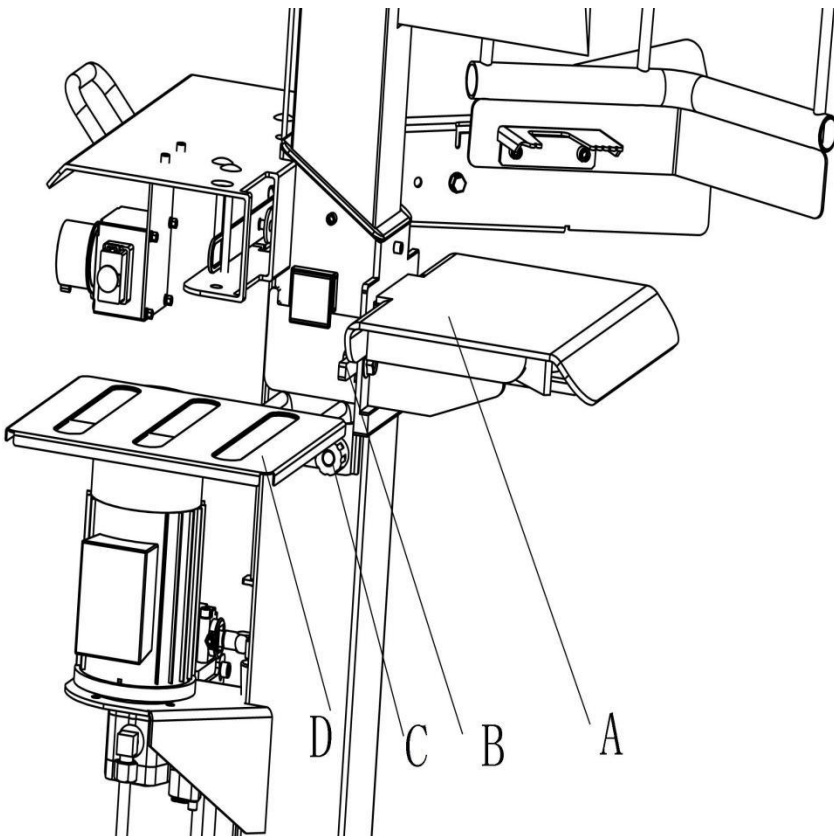

Fig.4
**Mounting the left/right storage Fig .4**
### Mounting the table, Fig. 4